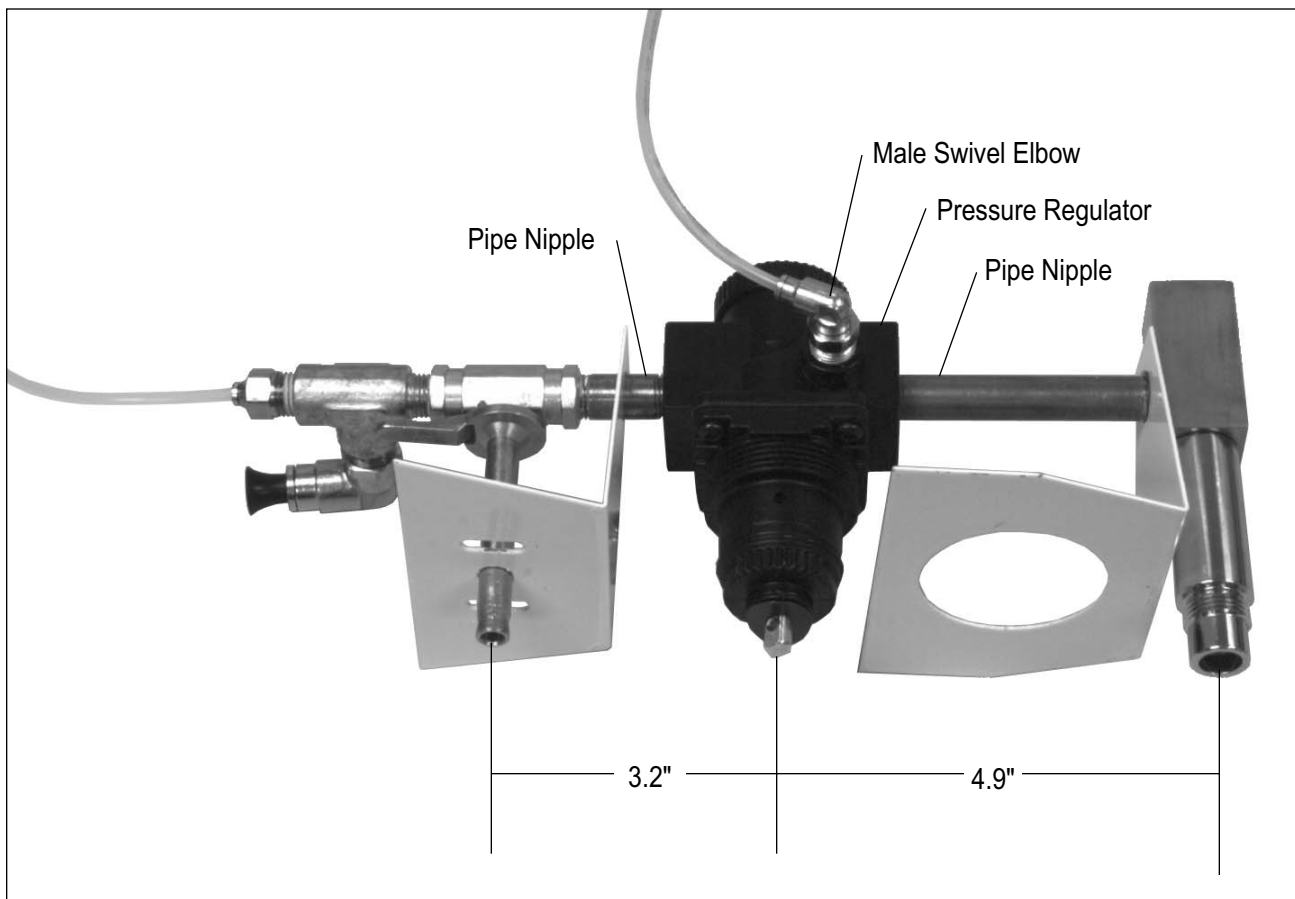

Figure 24
Pressure Regulator Replacement (Figure 24):
1. Place pressure regulator (9) in soft-jaw vise.
2. Use pipe wrench to remove two pipe nipples (10) and (40) from regulator. Do not remove components on opposite pipe nipple ends. Clean threads of pipe nipples.
3. Remove male swivel elbow (7) and 1/4" NPT pipe plug from regulator. Clean threads of pipe plug.
6. Reinstall pipe nipples into regulator. Refer to Figure 24 for proper spacing and alignment of assembled parts.